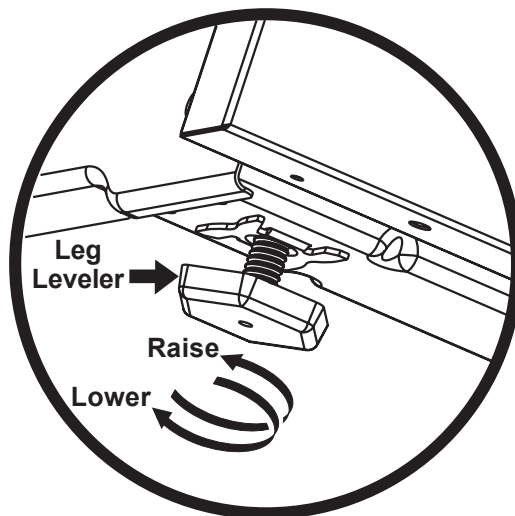
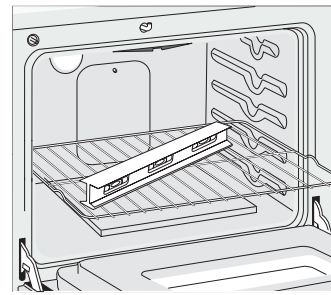

Figure 11
Figure 15
3. Check if the range is level by installing an oven rack in the center of the oven and placing a level on the rack (Figure 15).
2. Place a level on the rack (see Figure 15). Take 2 readings with the level placed diagonally in one direction and then the other. Level the range, if necessary, by adjusting the 4 leg levelers with a wrench (see Figure 11).